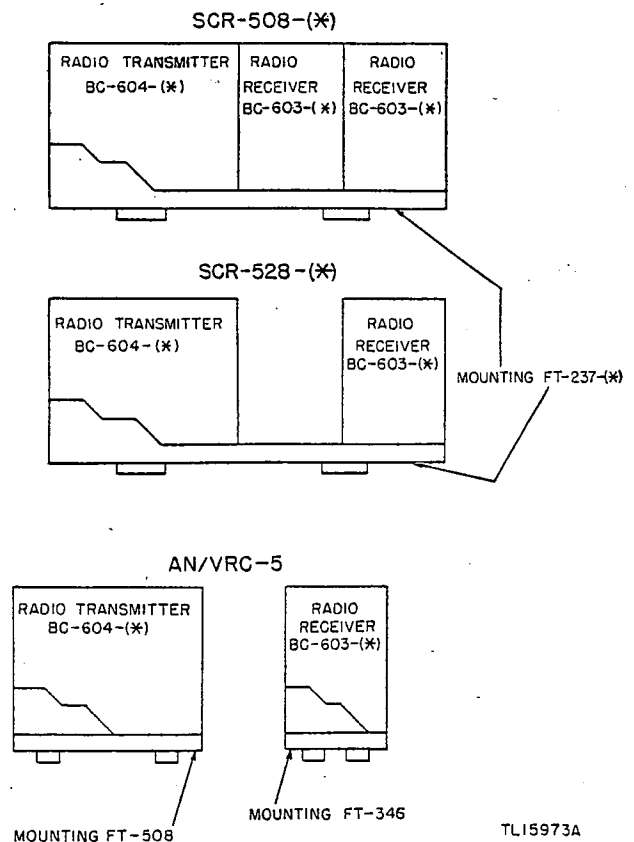
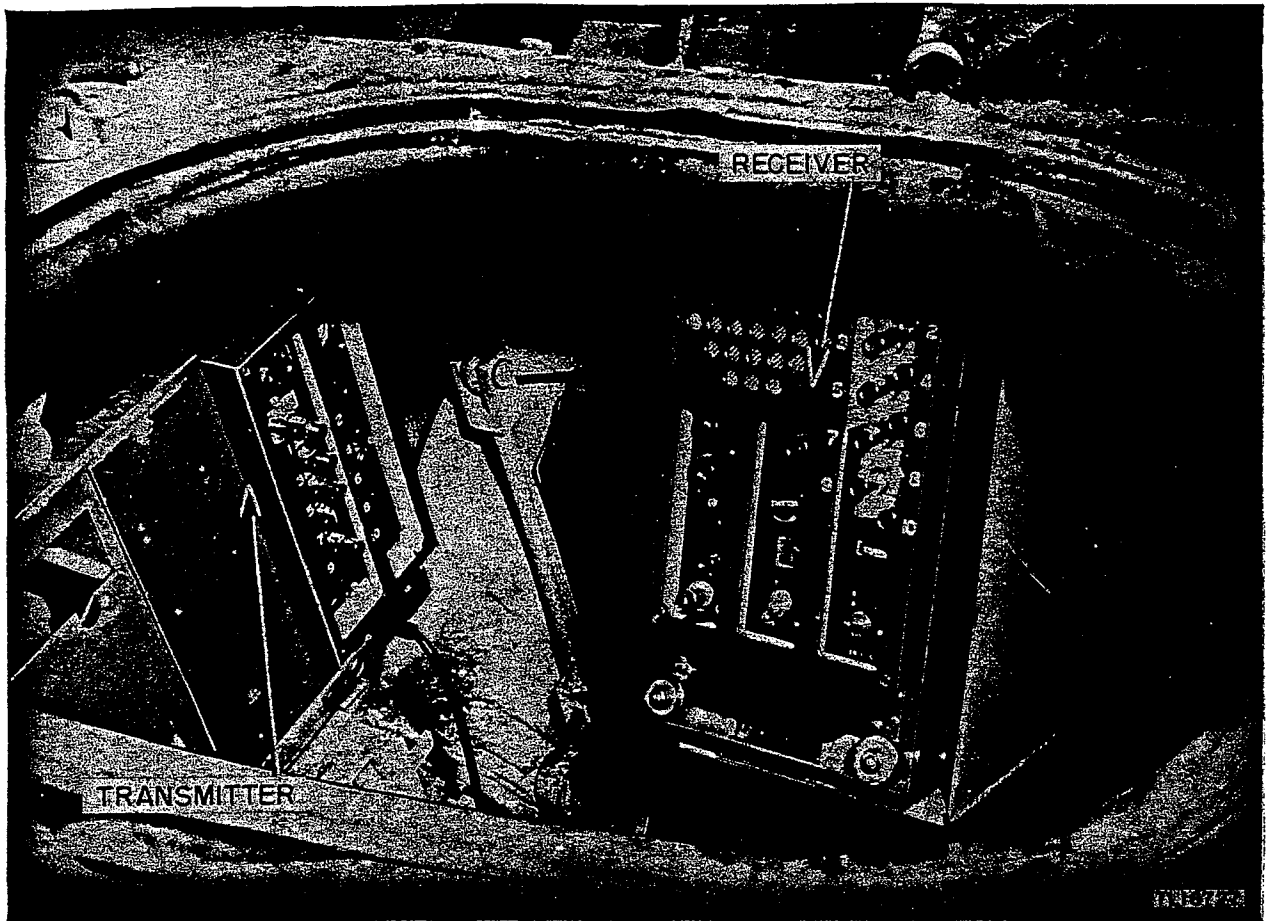

Figure 2. Radio Set SCR-508-(*), SCR-528-(*), AN/VRC-5, basic components.
Figure 7. Radio Set AN/VRC-5, mounted in Twin 40-mm Gun Motor Carriage, M19.
b. Radio Set SCR-508-(*), consists basically of Radio Transmitter BC-604-(*), and two Radio Receivers BC-603-(*), (fig. 2). The transmitter provides f-m, radiotelephone transmitting facilities for anti-aircraft and antitank warning and control nets, for base stations at battalion command posts for fire control and fire-direction nets, and for intrabattalion communication. The receivers provide f-m radiotelephone reception facilities for car, platoon, company, battalion, and regimental commanders, and for staff officers and commanders in higher echelon.
c. Radio Set SCR-528-(*), consists mainly of one Radio Transmitter BC-604-(*), and one Radio Receiver BC-603-(*), (fig. 2).
b. RADIO SET SCR-528-(*). Radio Set SCR-528-(*) is identical to Radio Set SCR-508-(*), except that Radio Set SCR-528-(*) has one Receiver BC-603-(*) instead of two. (See fig. 2.)
except that Radio Set AN/VRC-5 has two separate mountings, FT-346 and FT-508, for the receiver and transmitter, respectively. (See fig. 2.) A typical installation of Radio Set AN/VRC-5 is illustrated in figure 7. Weights and dimensions of the mountings used in this set are shown in the following table.